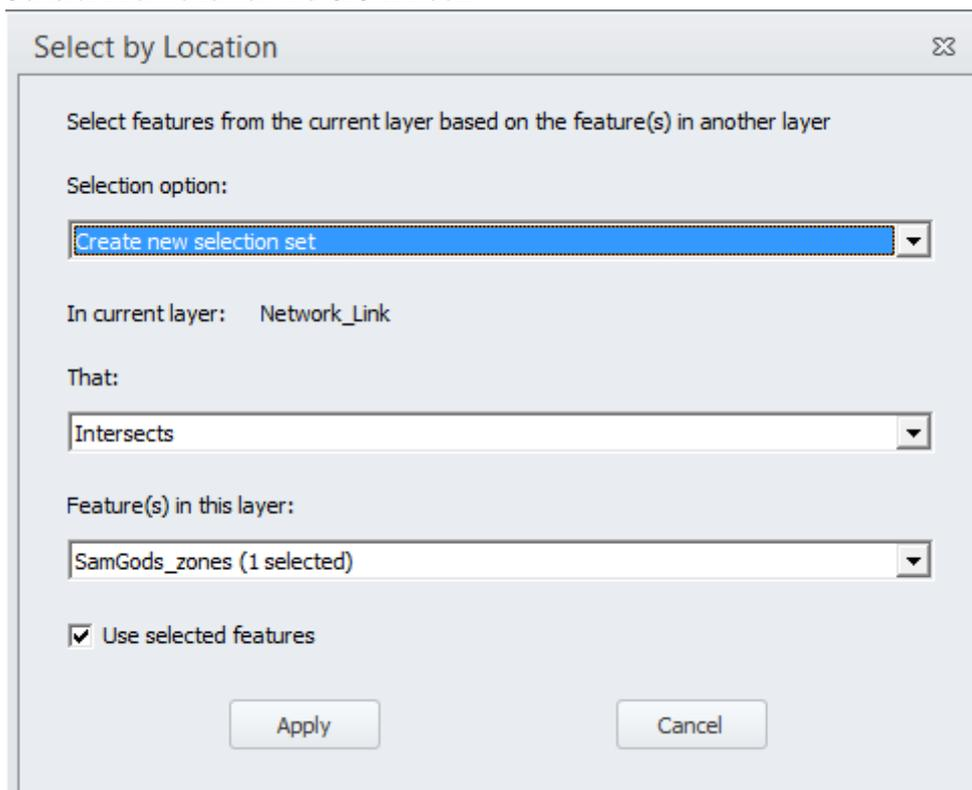

Figure 37 The Select by Location tool.
- 4) In the Select by Location window, set the values indicated in Figure 37